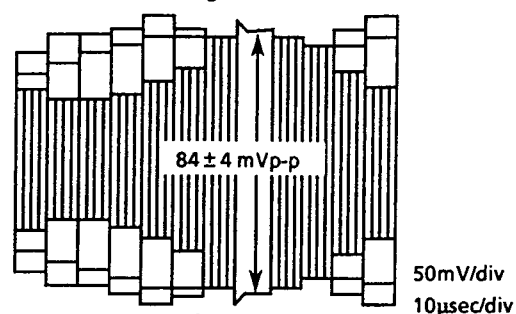

Figure 2-12.
4. Adjust R321 (recording Y control) so that the sync tip be $84 \pm 4\text{mVp-p}$ as shown in Figure2-12.